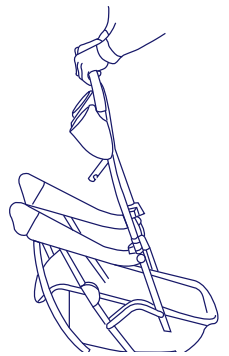

Figure 9.
- Lift up on the stroller handle with both hands until the stroller frame is erect and locked in the open position. See figure 9. The stroller has spring-loaded latches on both sides of the frame. Test that both latches are fully engaged prior to placing your child in the stroller.